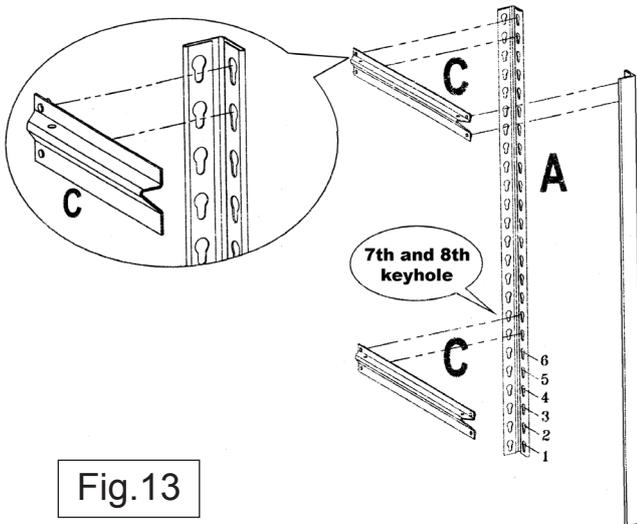

Fig.13
**4.11 See Fig.13.** Now start to build the second low level unit by making up two end frames as shown in Fig.13. One short 'Z' beam (C) should be fixed at the top of the angle posts and the other short 'Z' beam (C) should be fixed at the 7th and 8th keyholes up from the bottom of the angle posts as shown below. Ensure that each 'Z' beam is facing upwards. Tap the beam at either end, close to each angle post with a rubber mallet to ensure that the rivets are seated at the bottom of the keyhole slots.